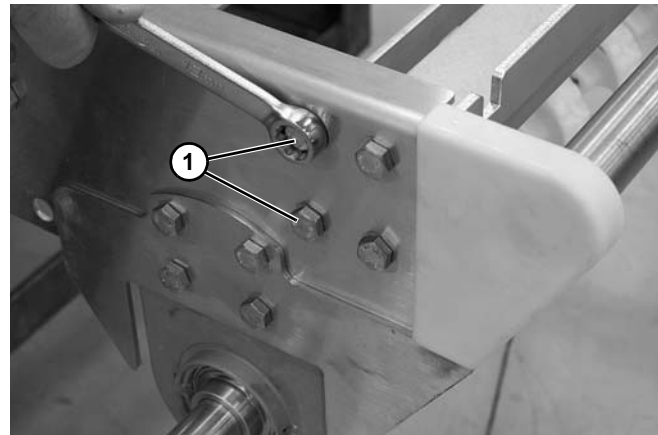

Figure 53
3. Remove the four headplate screws (**Figure 53, item 1**).